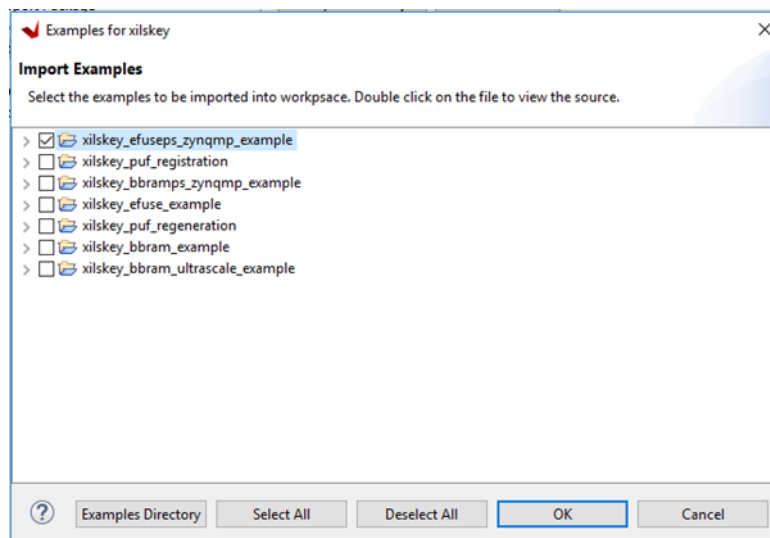

Figure 22: Import Xilskey eFUSES Examples Project
3. Select the check box for `xilskey_efuseps_zynqmp_example` (Figure 22) in the import examples pane, and click **OK**.